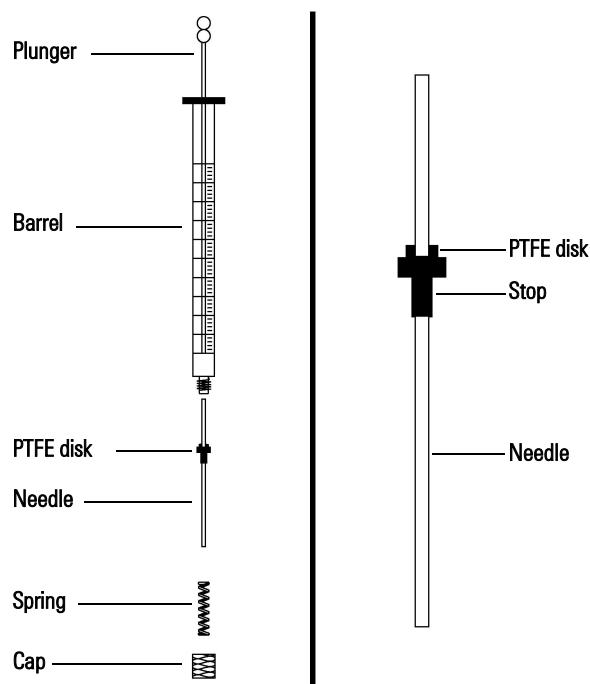

Figure 70 Syringe parts
To insert a needle into a syringe barrel (Figure 70):
- 2 Make sure the needle has a PTFE disk (Figure 70). If the syringe barrel does not have the PTFE disk, use the instructions in the syringe box to wrap the needle yourself.